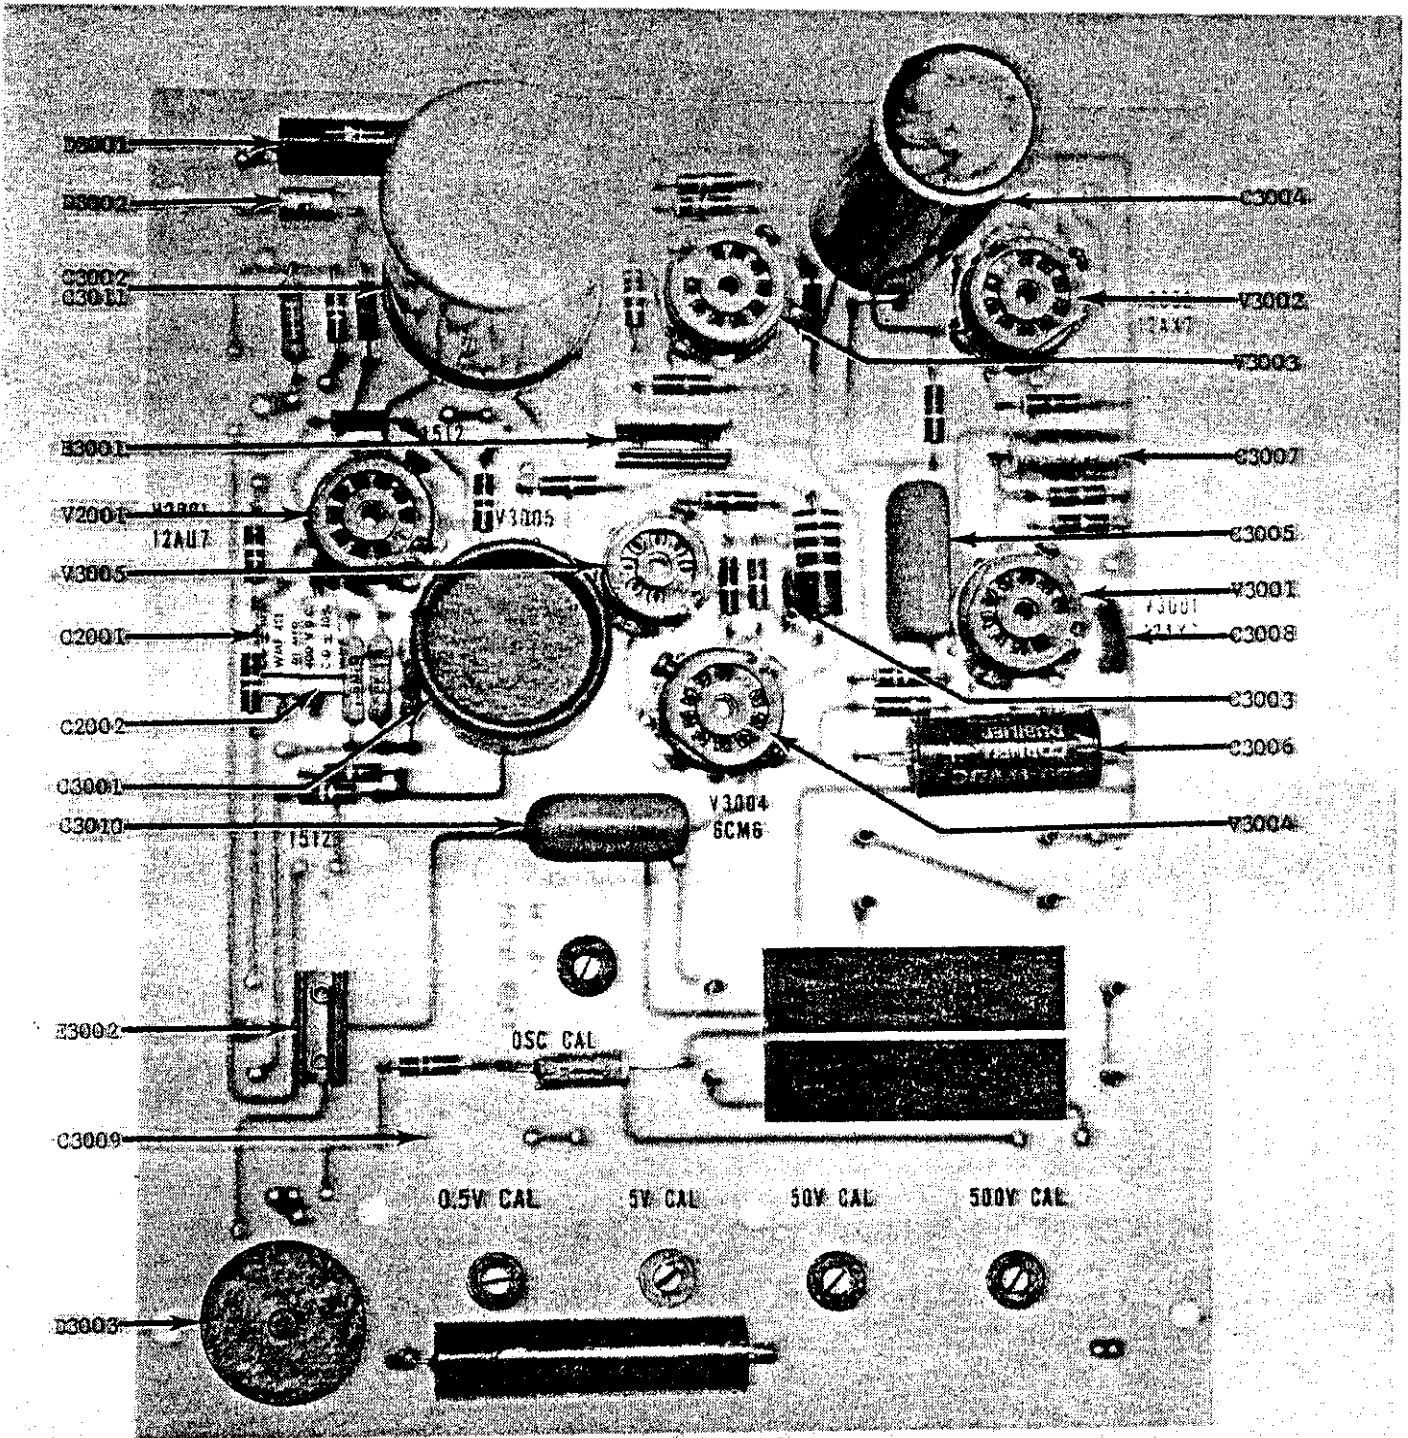
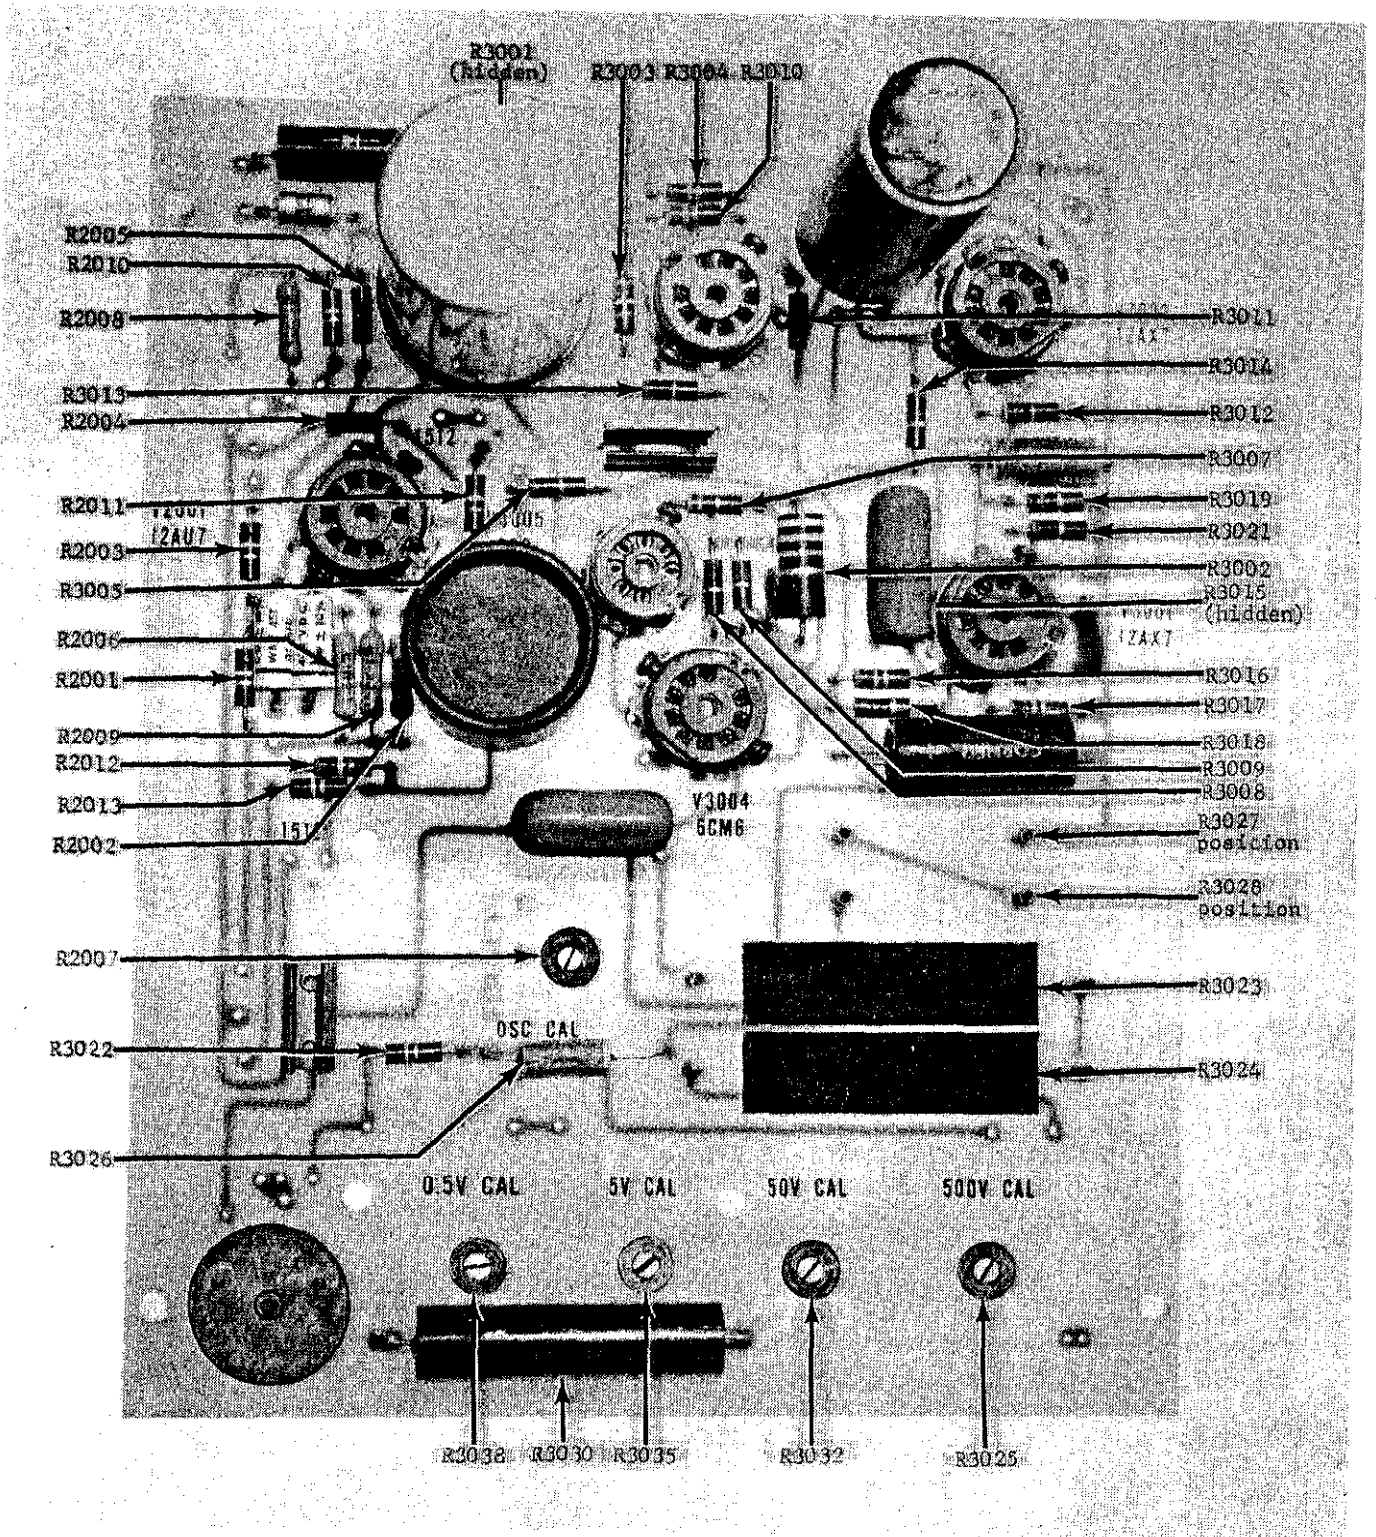

FIGURE 21. Capacitor, Modulator, Diode and Tube Locations on Printed Circuit Board PC92. Refer to Figure 22 for the resistor locations.
FIGURE 22. Resistor Locations on Printed Circuit Board PC92. Refer to Figure 21 for the location of other components.
a. The reference voltage supply has a 500-volt output which can be attenuated to 50, 5 or 0.5 volts. This voltage is then divided by the Kelvin-Varley divider to provide the accurate buckout voltage. Each of the four voltage ranges is set by internally adjusting potentiometers R3025, R3032, R3035 and R3038 (Figure 22).
Adjust the Voltage Calibrator to apply 500 volts to the Model 662. Turn the Model 662 NULL Switch to 10 MV and adjust the 500 V CAL potentiometer, R3025 (Figure 22), for null on the Differential Voltmeter.
Adjust the Voltage Calibrator to apply 50 volts dc to the Model 662. Adjust the 50 V CAL potentiometer, R3032 (Figure 22), for an off-null reading on the Model 662 equal to the correction factor at 50 volts.
Adjust the Voltage Calibrator to apply 5 volts dc to the Model 662. Adjust the 5 V CAL potentiometer, R3035 (Figure 22), for an off-null reading on the Model 662 equal to the correction factor at 5 volts.
Adjust the Voltage Calibrator to apply 0.5 volt dc to the Model 662. Adjust the 0.5 V CAL potentiometer, R3038 (Figure 22), for an off-null reading on the Model 662 equal to the correction factor at 0.5 volt.
2. Connect the Model 150A and the recorder as shown in Figure 13. Set the Model 150A to the 3-volt range. Advance the Model 662 POLARITY Switch to + to put 500 volts across the divider. If the Model 150A reads two volts, the standard cell and the divider voltages are improperly connected in series. If the circuit is correct, the Model 150A will read zero. Increase the Model 150A's sensitivity to the 0.1-millivolt range. If it reads more than 20 microvolts, adjust the 500 V CAL potentiometer, R3025 (Figure 22), shunting the divider.
b. Connect the Type 503 Oscilloscope Vertical Input to the plate and low side of tube V2001 (Figure 21) and the Horizontal Input to the Model 200CD Oscillator. Adjust the oscillator frequency to approximately 42 cps with potentiometer R2007 (Figure 22). The Model 662 oscillator is then adjusted for minimum meter noise — normally within a cycle of 42 cps. Disconnect the Oscilloscope before adjusting potentiometer R2007. The Oscilloscope will cause a small loading error.